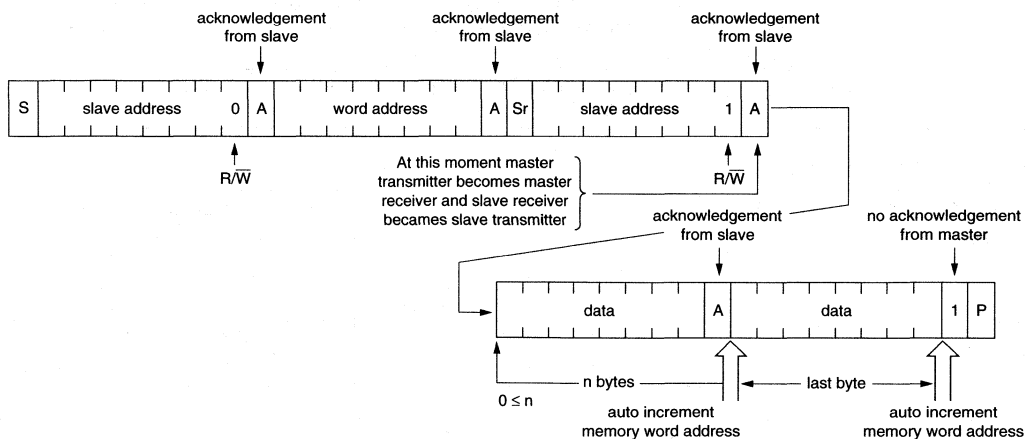

Fig.18 Random Read.
If the master wishes to read more bytes, it generates an Acknowledge (A = 0) after receiving each byte (Sequential Read). Any number of bytes can be read; the address pointer will wrap-around to address 00H when the highest address is read. To end Sequential Read, the master generates a No-acknowledge (A = 1) and a Stop (P). Figure 18 shows the Random Read and Sequential Read procedure.